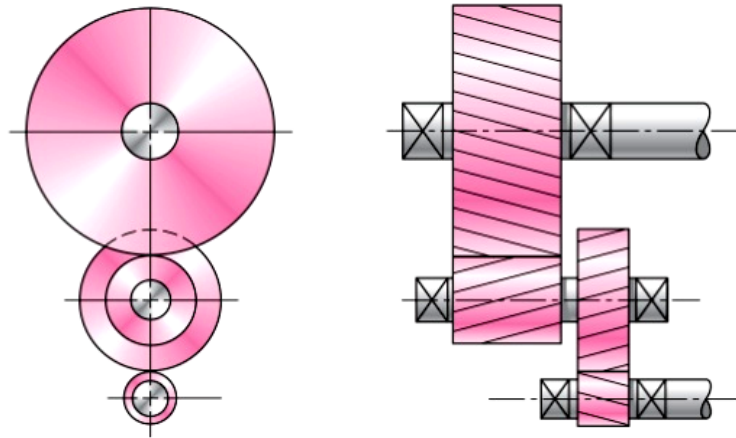

Figure 2(a)
2. (a) A gearbox shown in Figure 2(a) is needed to provide 80:1 increase in speed while minimizing the gearbox size. The customer has required that the module should be 6 mm.
- (i) and label the gears and the teeth numbers by redrawing Figure 2(a). (20 marks)